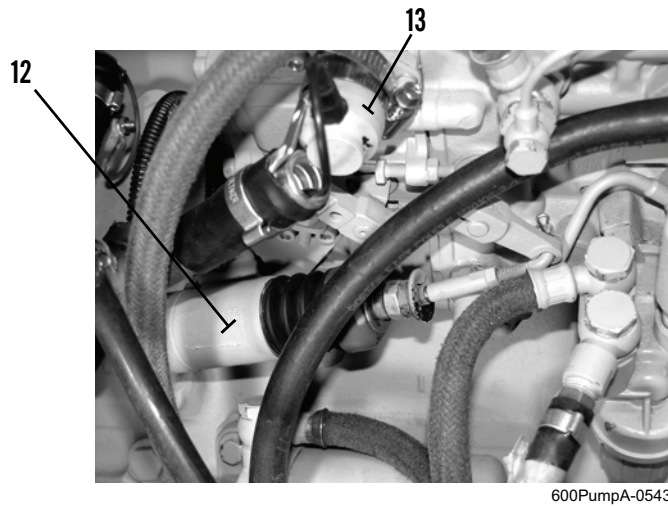

Figure 4. Fuel Injection Pump.
9. Disconnect engine/control wiring harness from fuel injection pump solenoid (Figure 4, Item 12) (WP 0095).
10. Disconnect engine/control wiring harness from fuel injection pump electromagnet (Figure 4, Item 13) (WP 0095).